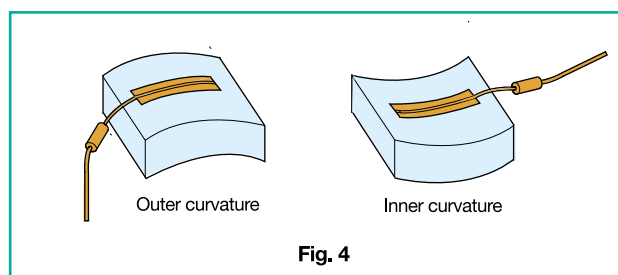

Fig. 4
- Spot-welding the flange to a curved surface: Press the flange against a pipe or the like having the same curvature as the mounting surface so that the flange is given the same curvature as the mounting surface. Then, spot-weld. (Fig. 4) If the curvature radius and curved direction are specified when ordering, the gage will be delivered with the specified shape.